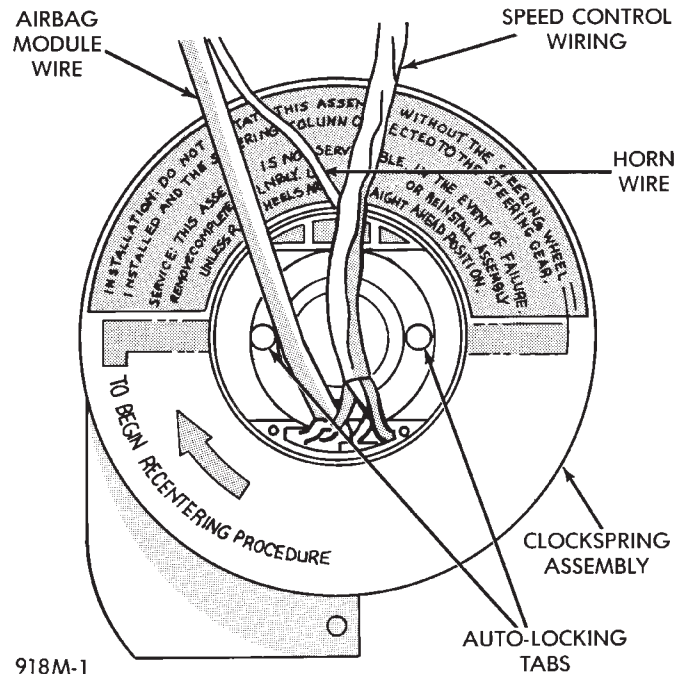

Fig. 15 Clockspring Auto-Locking Tabs
(1) Turn the steering wheel until the front wheels are in the straight-ahead position before starting the centering procedure.
(2) Disconnect and isolate the battery negative cable. If the airbag has not been deployed, wait two minutes for the system capacitor to discharge before further service.
(3) Remove the driver side airbag module from the steering wheel. See Airbag Module in the Removal and Installation section of this group for the procedures.
(4) If the vehicle is equipped with the optional vehicle speed control, unplug the wire harness connectors from the speed control switches in the steering wheel.
(5) Remove the nut that secures the steering wheel to the steering column upper shaft.
(6) Remove the steering wheel with a steering wheel puller (Special Tool C-3428-B).
(7) Depress the two plastic clockspring auto-locking tabs (Fig. 15).
(8) Keeping the locking mechanism disengaged, rotate the clockspring rotor clockwise to the end of its travel. **Do not apply excessive torque.**
(9) From the end of the clockwise travel, rotate the rotor about two and one-half turns counterclockwise.